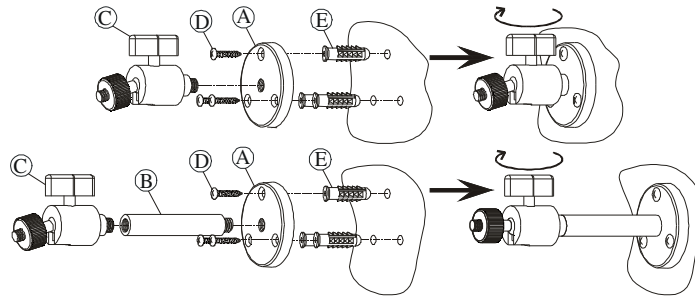

Figure 1
- (1) Use the 3 screws provided to attach the mounting bracket to the surface or wall, assemble all spare parts to the base plate and tighten the camera wingnut (as shown on Figure 1).